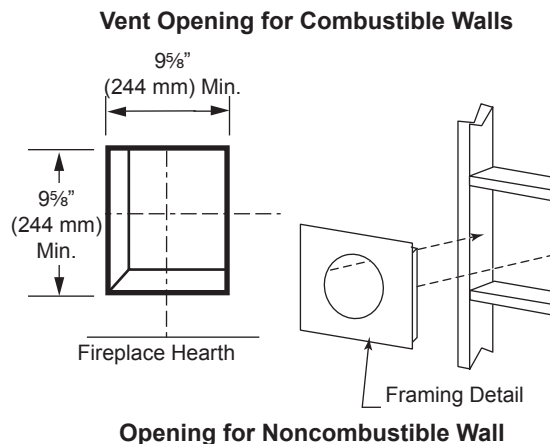

Figure 27 -
Locate vent opening on the wall. It may be necessary to first position the fireplace and measure to obtain hole location. Depending on whether the wall is combustible or noncombustible, cut opening to size. *Figure 27* (For combustible walls first frame in opening.)
Combustible Walls: Cut a 9⁵/₈"H x 9⁵/₈"W (244 x 244 mm) hole through the exterior wall and frame as shown. *Figure 27*
1. Establish vent hole through the wall. *Page 19, Figure 27*